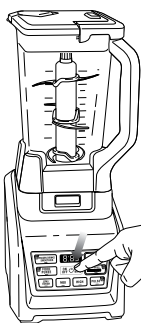

Fig. 8
- 14 When you have reached your desired consistency, stop the appliance by pressing the power button (⏻) and wait for the Stacked Blade Assembly to stop turning. (Fig. 8)